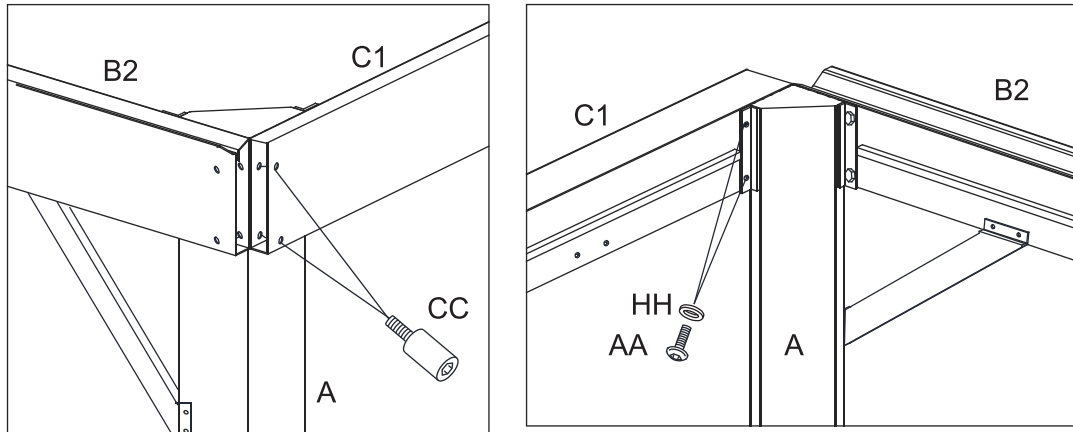
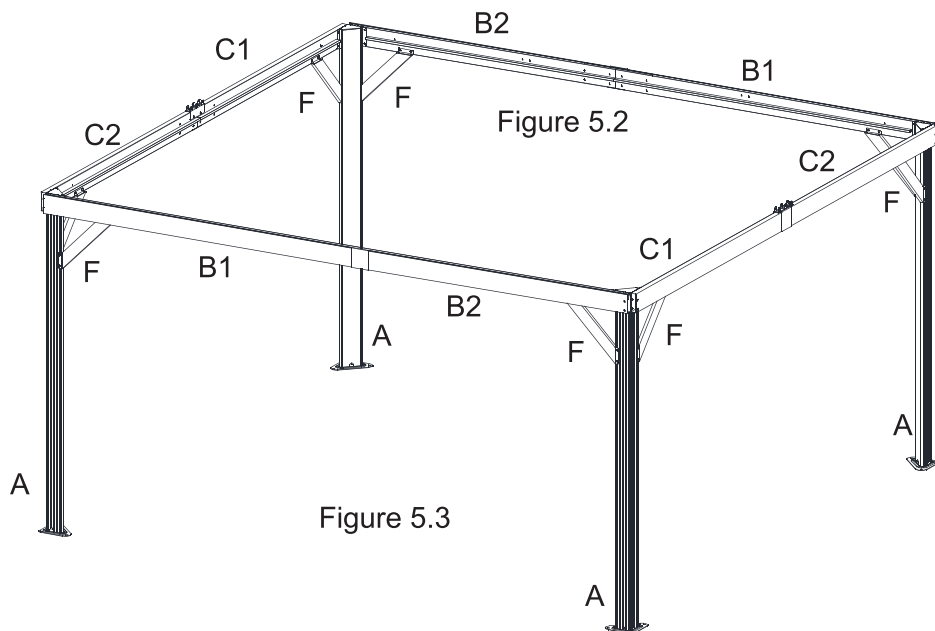

Figure 5.1
Figure 5.3
5.1 Attach Lintel (C1 and C2) to Corner Posts (A) first with Bolts (CC) then with Bolts (AA) and washer (HH). Tighten all the Bolts. Repeat for opposite side . Tighten all Bolts. See Figure 5.1 and Figure 5.3.
5.3 Repeat for all Corner Posts and Lintels. Tighten All Bolts. See Figure 5.3.